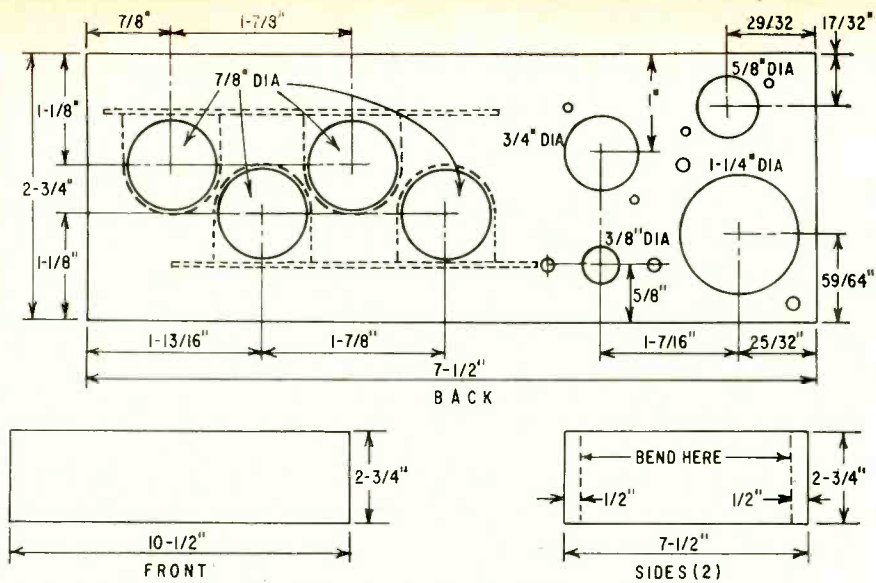

Fig. 4—Amplifier chassis details. Make top and bottom covers to fit. See front- and rear-view photos.
- Sockets, right-angle printed-circuit, 9-prong (Aerovox RA9AX or equivalent) (4)
- Chassis, case, see Fig. 4